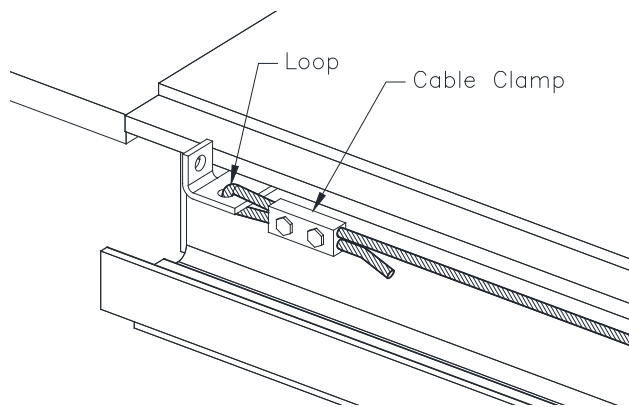

Figure 9
18. Route cable thru both spiral flex air lines. On opposite end of runway, route cable thru hole in Cable Bracket and attach Cable Clamp as shown in **Fig 9**. Trim cable as necessary.